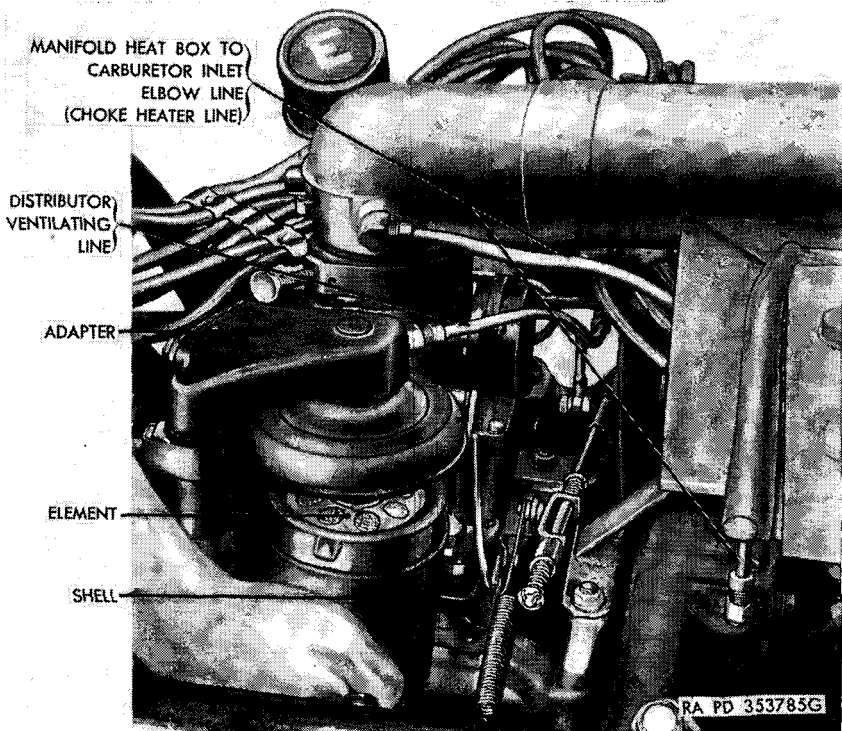

Figure 39. Removing engine crankcase cleaner element.
- (9) *Close engine compartment door.* Unhook hinged engine compartment door from turret and close door. Turn handles to locked position.
b. SERVICING. To service air cleaner element, unscrew shell from cover (fig. 39) and wash shell and element in dry-cleaning solvent or volatile mineral spirits paint thinner. Dry parts thoroughly with air hose, fill shell to "FULL" mark with clean oil (par. 62), place element over stud, and attach shell to cover.